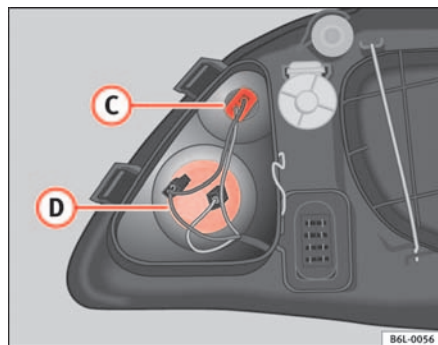

Fig. 155 Side lights
- Pull on the cables to release the lamp holder from the casing (C) ⇒ fig. 155.